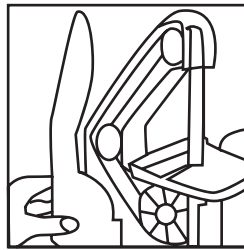

Fig. 8
7. Lift off the belt guard. (Fig. 8)